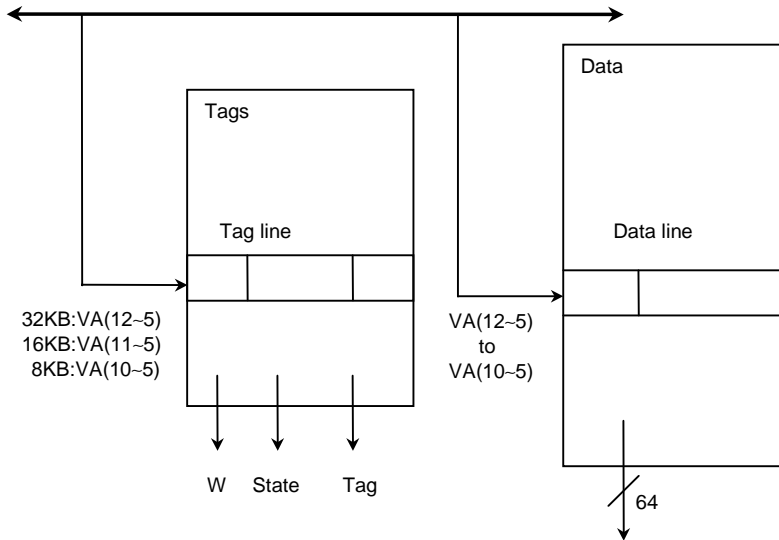

Figure 9-8 Primary Cache Data and Tag Organization
Figure 9-8 shows the virtual address (VA) index to the primary cache. Each instruction and data cache size is 8 KB, 16 KB or 32 KB. The virtual address bits be used to index into the primary cache decided by the cache size.